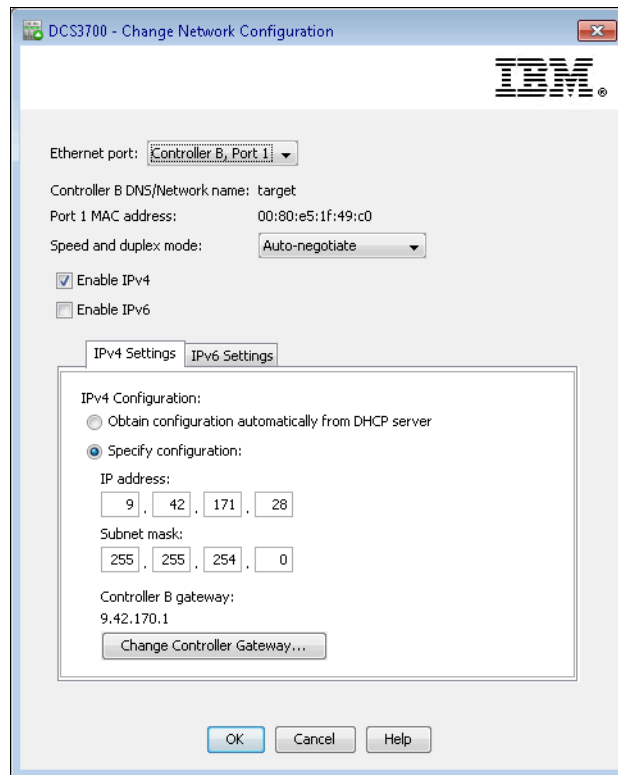

Figure 9-22 Change Ethernet settings
1. Select one controller in Physical pane, right-click it, and select **Configure** → **Ethernet Management Ports**. The window that is shown in Figure 9-22 opens. In this window, you can set IP addresses, IP masks, the default gateway, and the link speed of the Ethernet port, for all four Ethernet ports on both controllers.